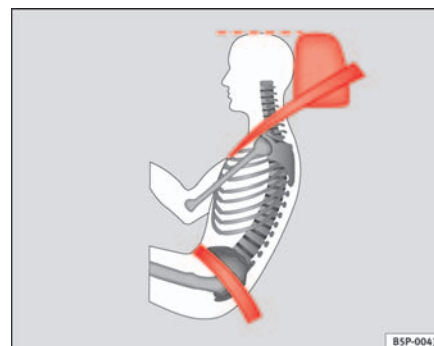

Fig. 13 Correct belt web and head restraint positions, viewed from side
- The lap part of the seat belt must lie across the pelvis, never across the stomach. The seat belt must lie flat and snugly on the pelvis ⇒ page 23, fig. 13. Pull the belt tight if necessary to take up any slack.